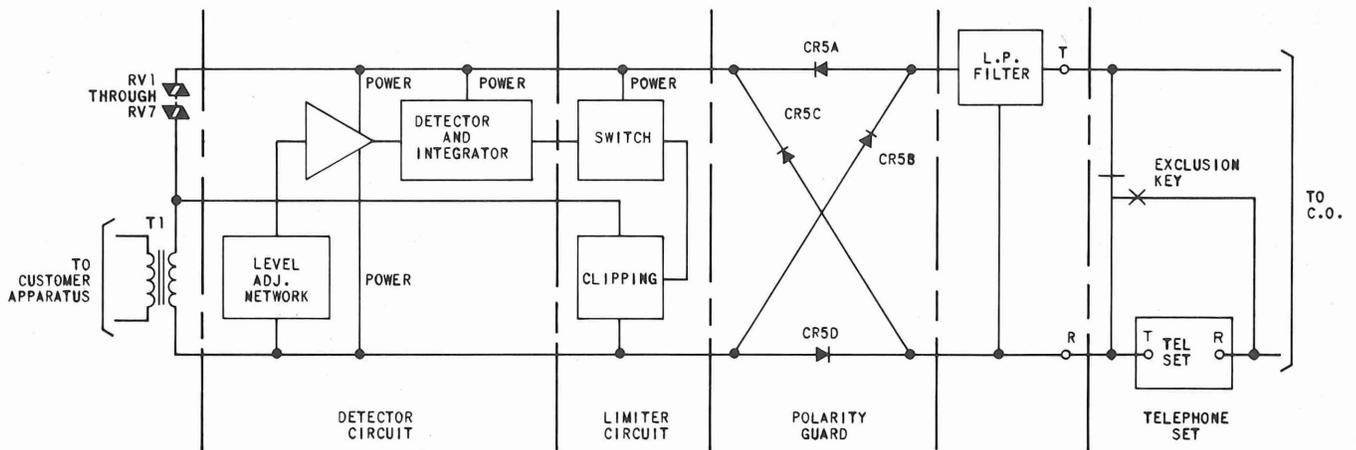

Fig. 3—Data Coupler, Block Diagram
**2.04** Power is supplied to the data coupler by the central office battery supply. The polarity guard circuit (see Fig. 3) provides the correct polarity regardless of the polarity of the central office battery. Varistors RV1 through RV7